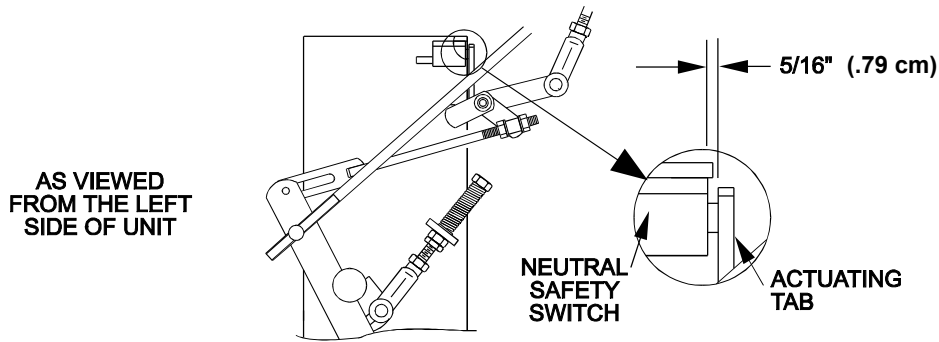

FIGURE 18
3. Pull the speed control lever back to neutral. Check that the neutral safety switch actuating tab has depressed the plunger of the switch so that there is about 5/16" (.79 cm) between the tab and the switch. See Figure 18. If necessary, move the switch fore and aft.